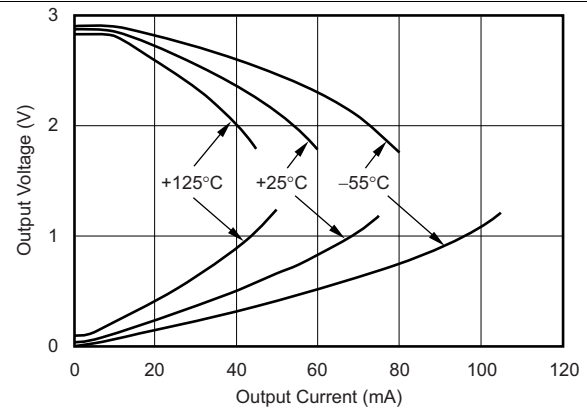
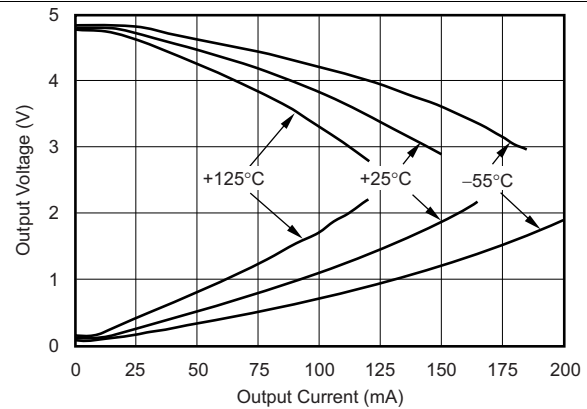

图 20. Output Voltage Swing vs Output Current for $V_S = 3\text{ V}$
图 22. Output Voltage Swing vs Output Current for $V_S = 5\text{ V}$
(1) See typical characteristic curves, *Output Voltage Swing vs Output Current* (图 20 and 图 22).
(2) Specified by design.
A class AB output stage with common-source transistors is used to achieve rail-to-rail output. For high-impedance loads ($> 200 \Omega$), the output voltage swing is typically 100 mV from the supply rails. With $10\text{-}\Omega$ loads, a useful output swing can be achieved while maintaining high open-loop gain. See the typical characteristic curves, *Output Voltage Swing vs Output Current* (图 20 and 图 22).
The TLV3544-Q1 output stage can supply a continuous output current of ± 100 mA and yet provide approximately 2.7 V of output swing on a 5-V supply, as shown in 图 30. For maximum reliability, TI does not recommend running a continuous DC current in excess of ± 100 mA. Refer to the typical characteristic curves, *Output Voltage Swing vs Output Current* (图 20 and 图 22). For supplying continuous output currents greater than ± 100 mA, the TLV3544-Q1 may be operated in parallel, as shown in 图 31.